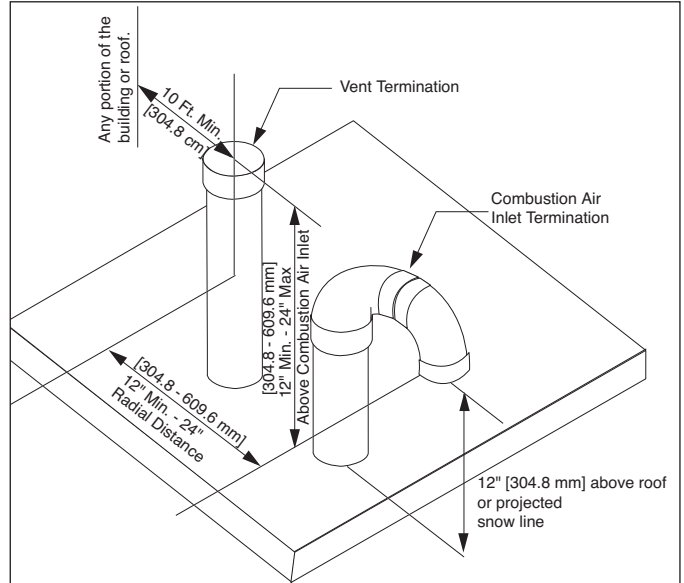

Fig. 1: Direct Vent - Vertical Termination of Vent and Combustion Air Piping.
2. The combustion air piping must terminate in an upside down “U” shape fashion using two 90° elbows and must be installed 12 inches [304.8 mm] above the roof or projected snowline, as shown in Fig. 1.
3. The vent must terminate vertically with a coupling and must be located 12 to 24 inches [304.8 - 609.6 mm] above the combustion air inlet as shown in Fig. 1.
4. The combustion air inlet and vent terminations must be located a radial distance of 12 to 24 inches [304,8 to 609,6 mm] from centerline as shown in Fig. 1.
3. Locate the vent and combustion air pipe penetrations to provide minimum clearances as described in Fig. 1 page 5.
2. The combustion air piping must terminate in an upside down "U" shape fashion using two 90° elbows as shown in Figs. 1 & 2.
3. The vent piping must terminate vertically with a coupling as shown in Figs. 1 & 2.
Do not extend the vent pipe outside the roof beyond the given dimensions shown in Fig. 1, page 5. Extended exposure of the vent pipe could cause condensate to freeze and block the vent pipe.